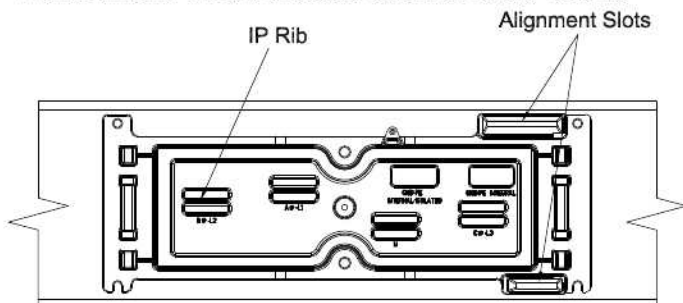

Figure 31. Plug-In Outlet
11.3.3 Open the desired busway plug-in outlet cover and locate the twin alignment slots in the busway side channel. (Figures 31, 36, 37 and 38).
11.3.5 Just prior to the contact fingers engaging the busway, ensure that the contact fingers are aligned correctly. Ensure that the finger is centered with the IP Rib (Figure 31) in the center of the corresponding plug-in outlet window.
11.5.2.3 Open the desired busway plug-in outlet covers and locate the alignment slots in the busway plug-in outlet (Figure 31).